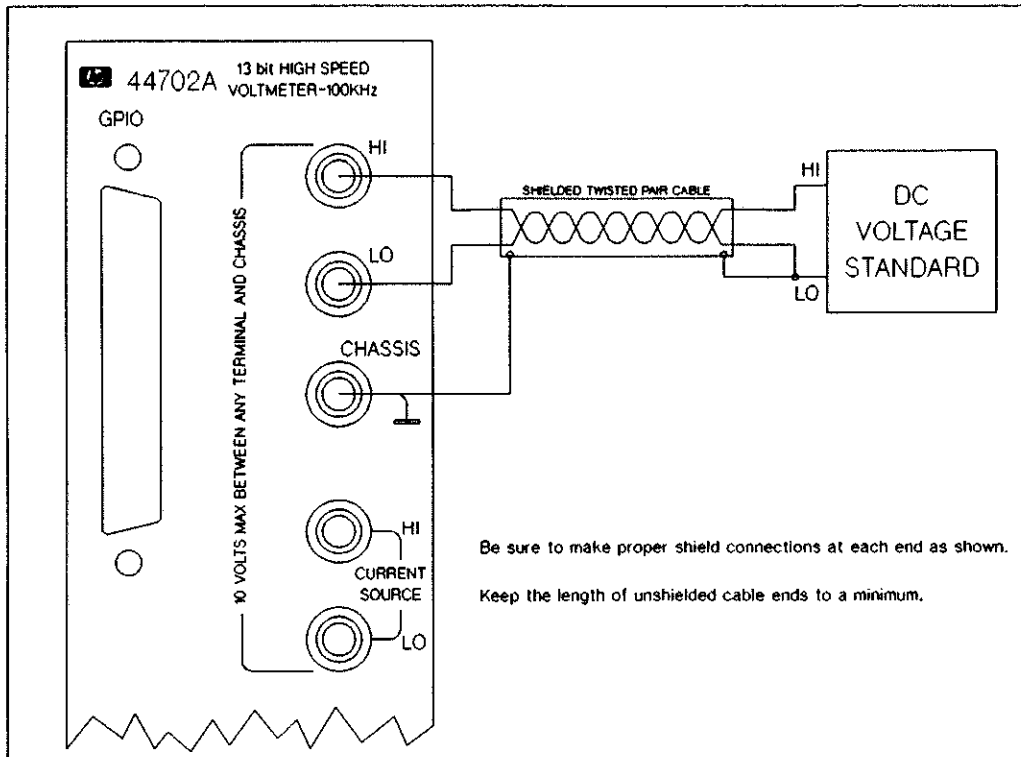

Figure 7-7 DC Voltage Gain Calibration Connections
6. Set the DC Voltage Standard output to +36 mV. Then connect the DC Voltage Standard to the rear HI and LO Input Terminals of the HP 44702A/B High Speed Voltmeter accessory. The connections are shown in Figure 7-7. Make sure shielded twisted pair cables are used for the connections as shown in the figure.